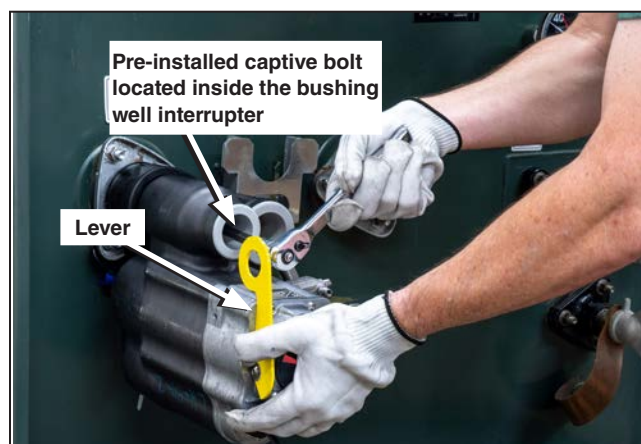

Figure 20. Align the bushing well interrupter with the bushing well insert. Torque the captive bolt.
- STEP 3.** There is a captive bolt inside the bushing well interrupter. Install the bushing well interrupter onto the bushing well adapter with the yellow lever in the vertical orientation, as shown in Figure 20.